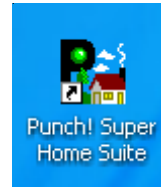

Figure 8
1. The first step will be to open the program. Look for the shortcut labeled as shown in **figure 8** and **double click** on the **icon** to open the program.